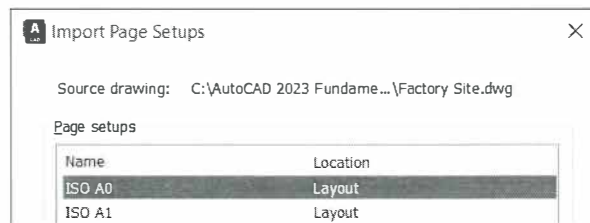

Figure 7–23
4. In the Import Page Setups dialog box, select the setup that you want to import, as shown in Figure 7–23.